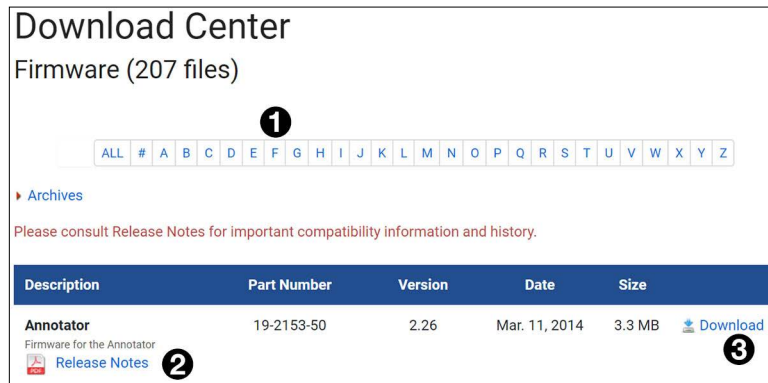

Figure 17. Firmware Download Center
4. The Firmware Download Center opens. Click the letter **F** from the alphabet menu (see figure 17, **1**).